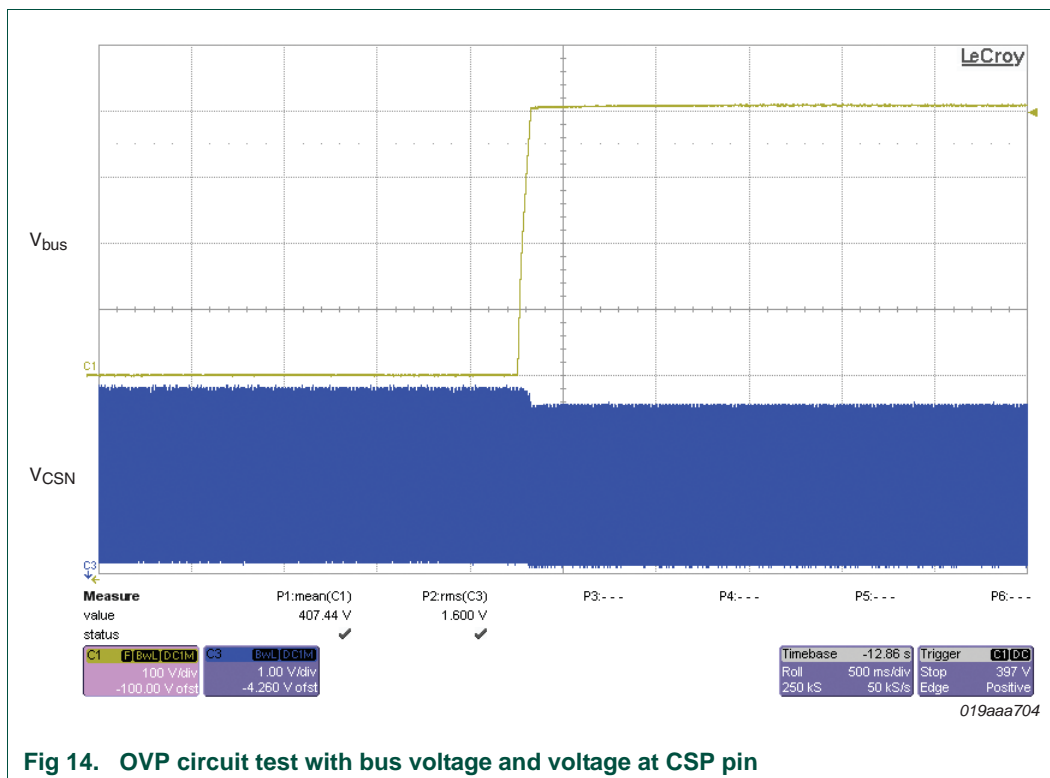

Fig 14. OVP circuit test with bus voltage and voltage at CSP pin
However, the OVP circuit was tested by supplying an external step on the bus voltage to the OVP circuit from 0 V (DC) to 410 V (DC) and at approximately 400 V (DC) the voltage on the CSN pin decreased by 10 %. The waveforms of the bus voltage to the OVP circuit and voltage at the CSN pin are shown in Figure 14.